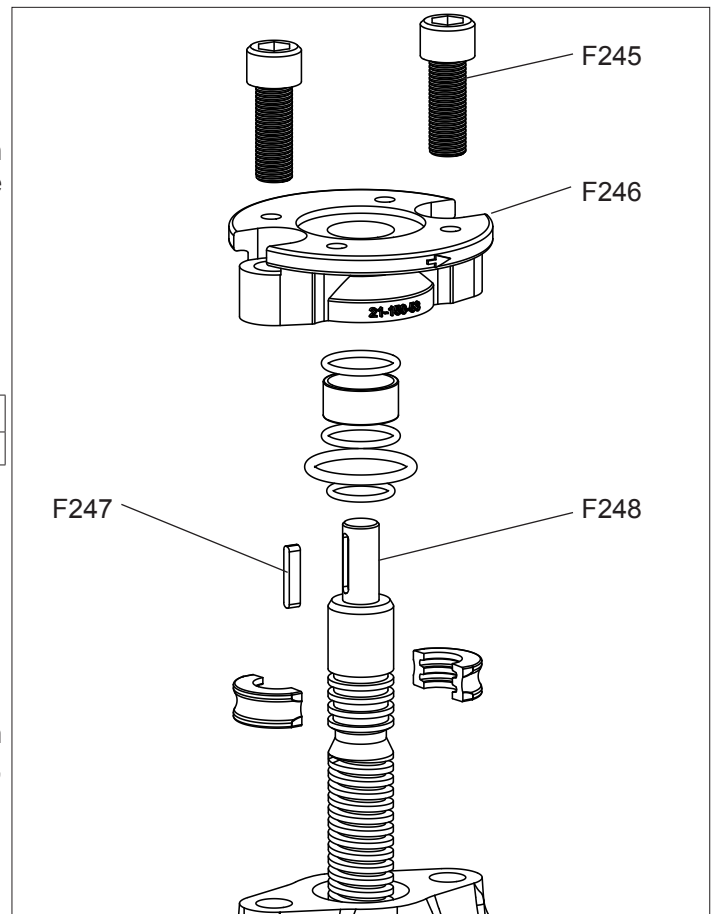

Fig. 9A
**ACTUATOR ADAPTERS: (Figs. 9A,9B)**
Fig. 9A lists the parts that differ from standard valves.